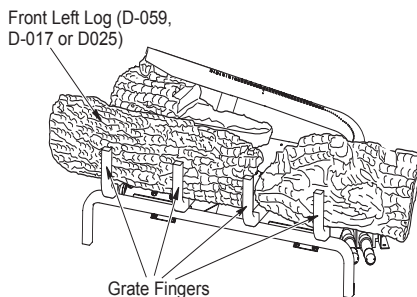

Figure 26 - Installing Front Left Log
- Find the front left log (LMF36-SC and VFGT24 inch models: D-059 or LMF42-SC and VTGF30 inch models: D-017 or LMF48-SC and VFGT36 inch models: D-025). See Figures 26, 26A, and 26B. The log has a rectangular stand off on the bottom that fits against the lip on the black metal base as shown in figure 26A. The bottom of this log has a slot that fits over the second bar on the grate as shown in Figure 26B, page 20. Place the log on the base assembly as shown in figures.